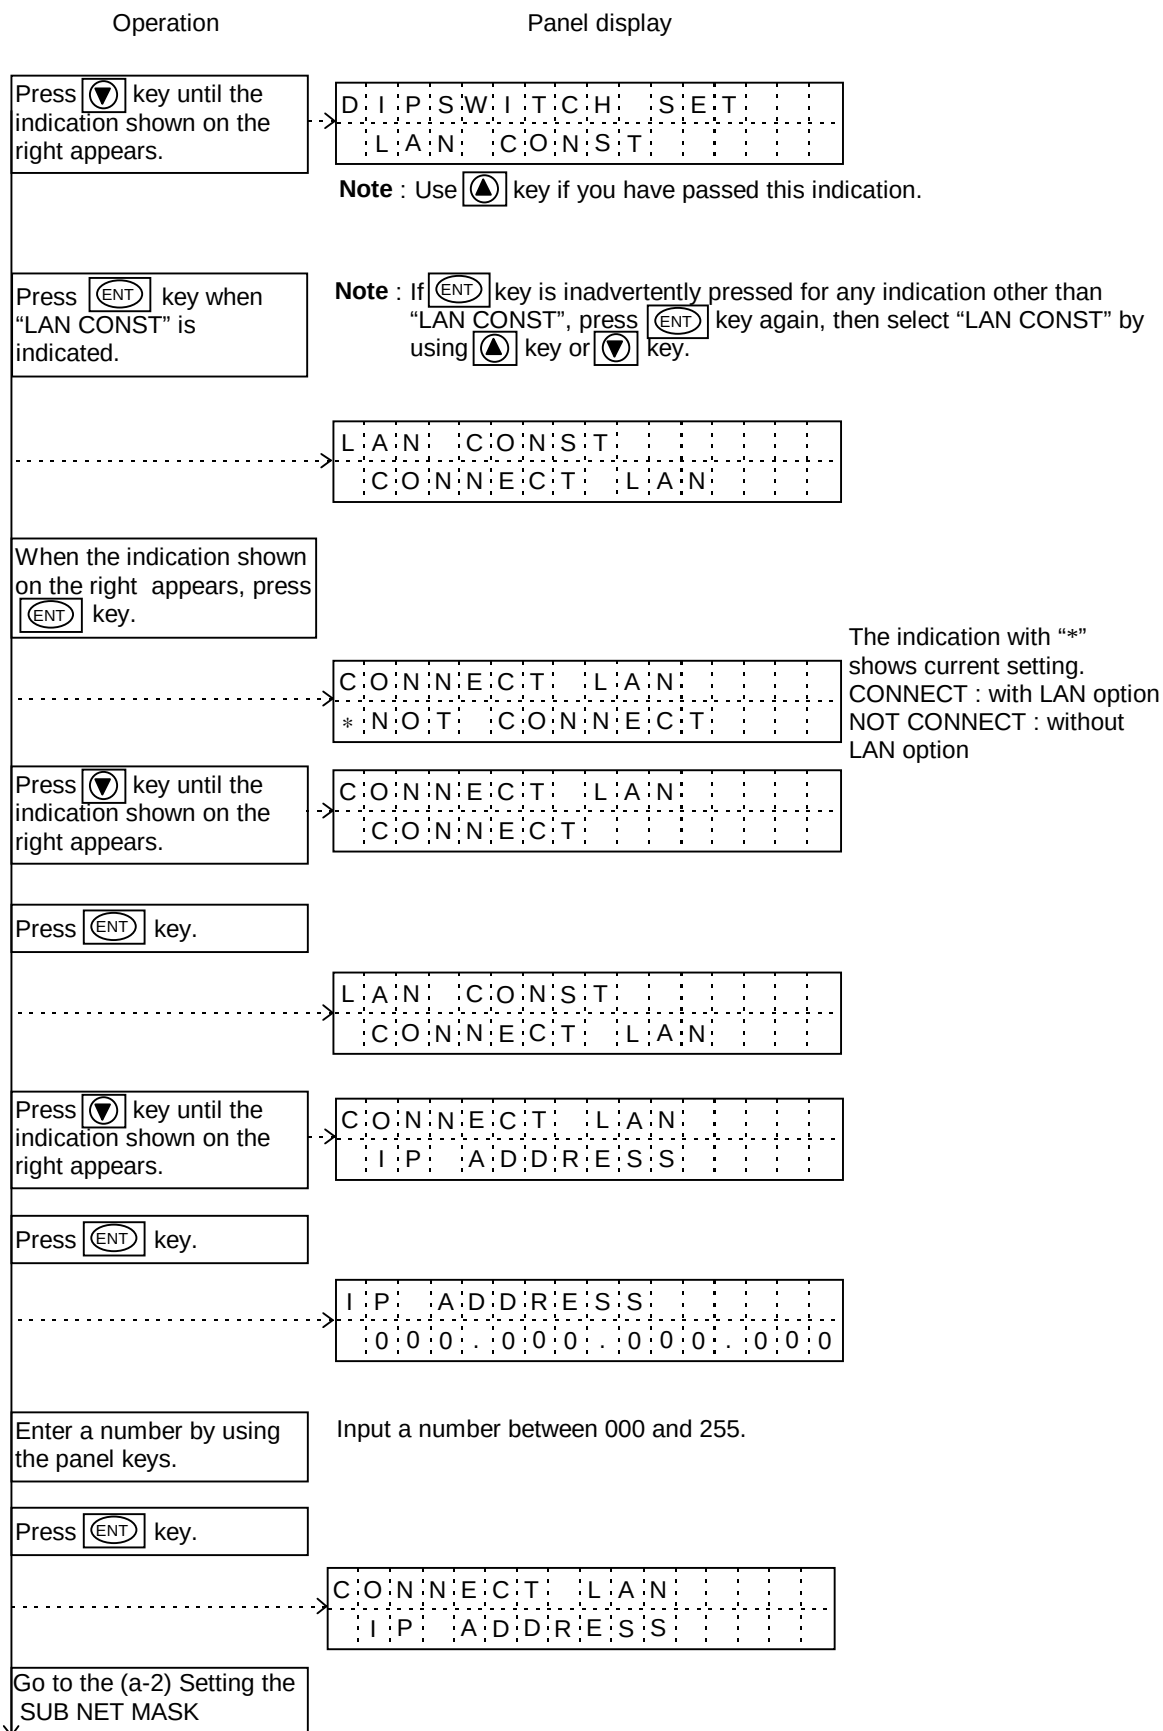

Figure 4.1.2 DIP switches (For setting the system parameter)
- (1) Before powering on the subsystem, set DIP switches No. 4, 6 as shown in Figure 4.1.2 .